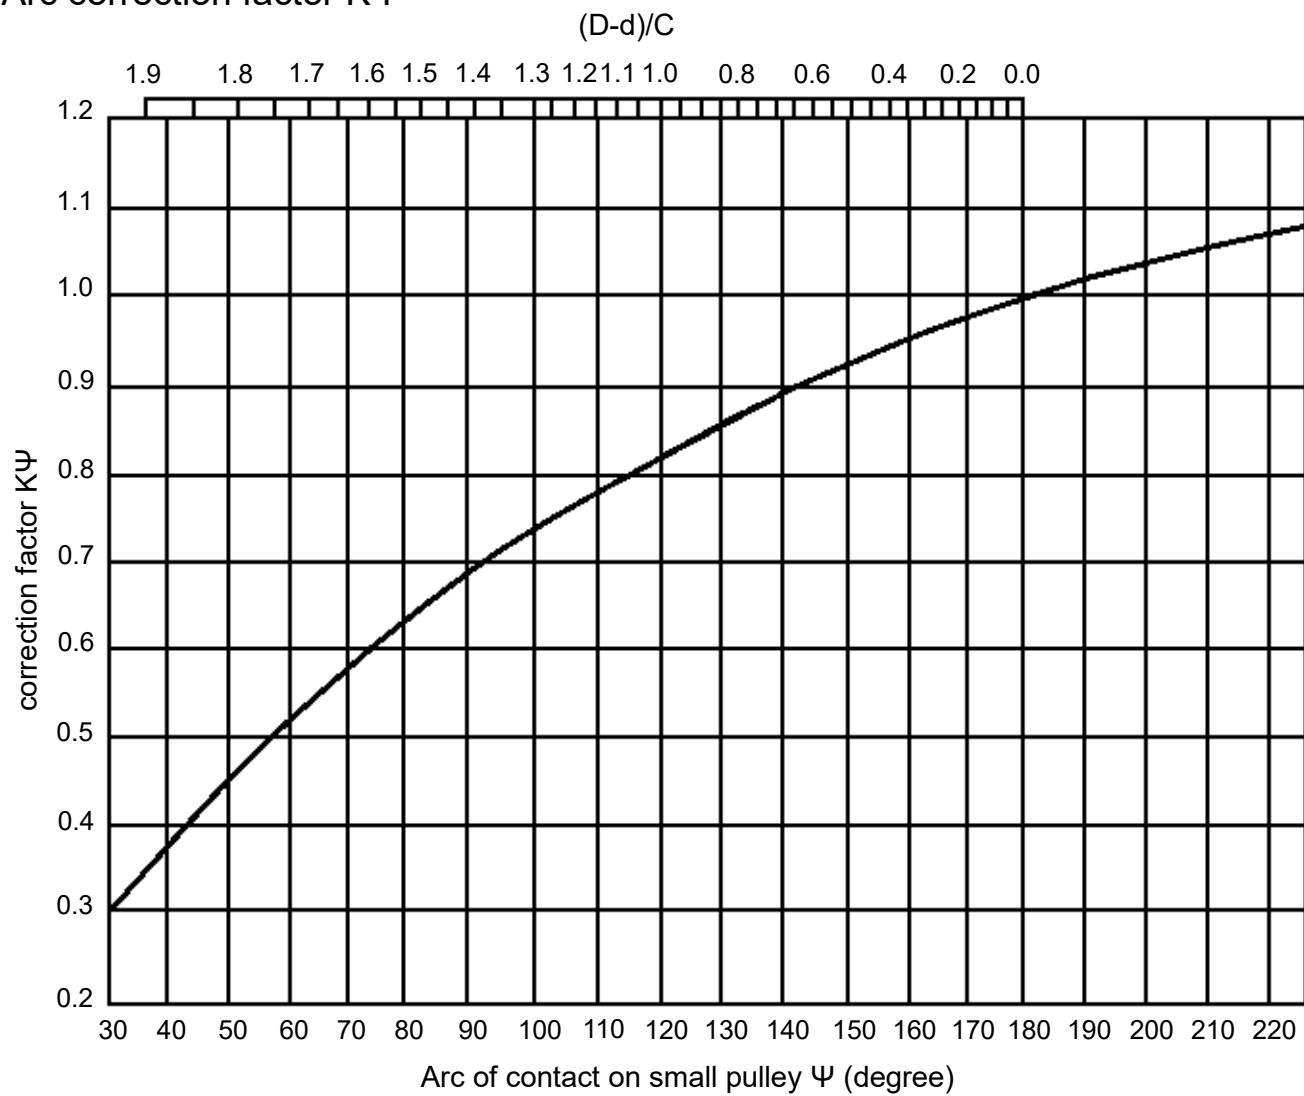

Figure 9
- b) Find the Arc correction factor $K\Psi$ from Figure 9.